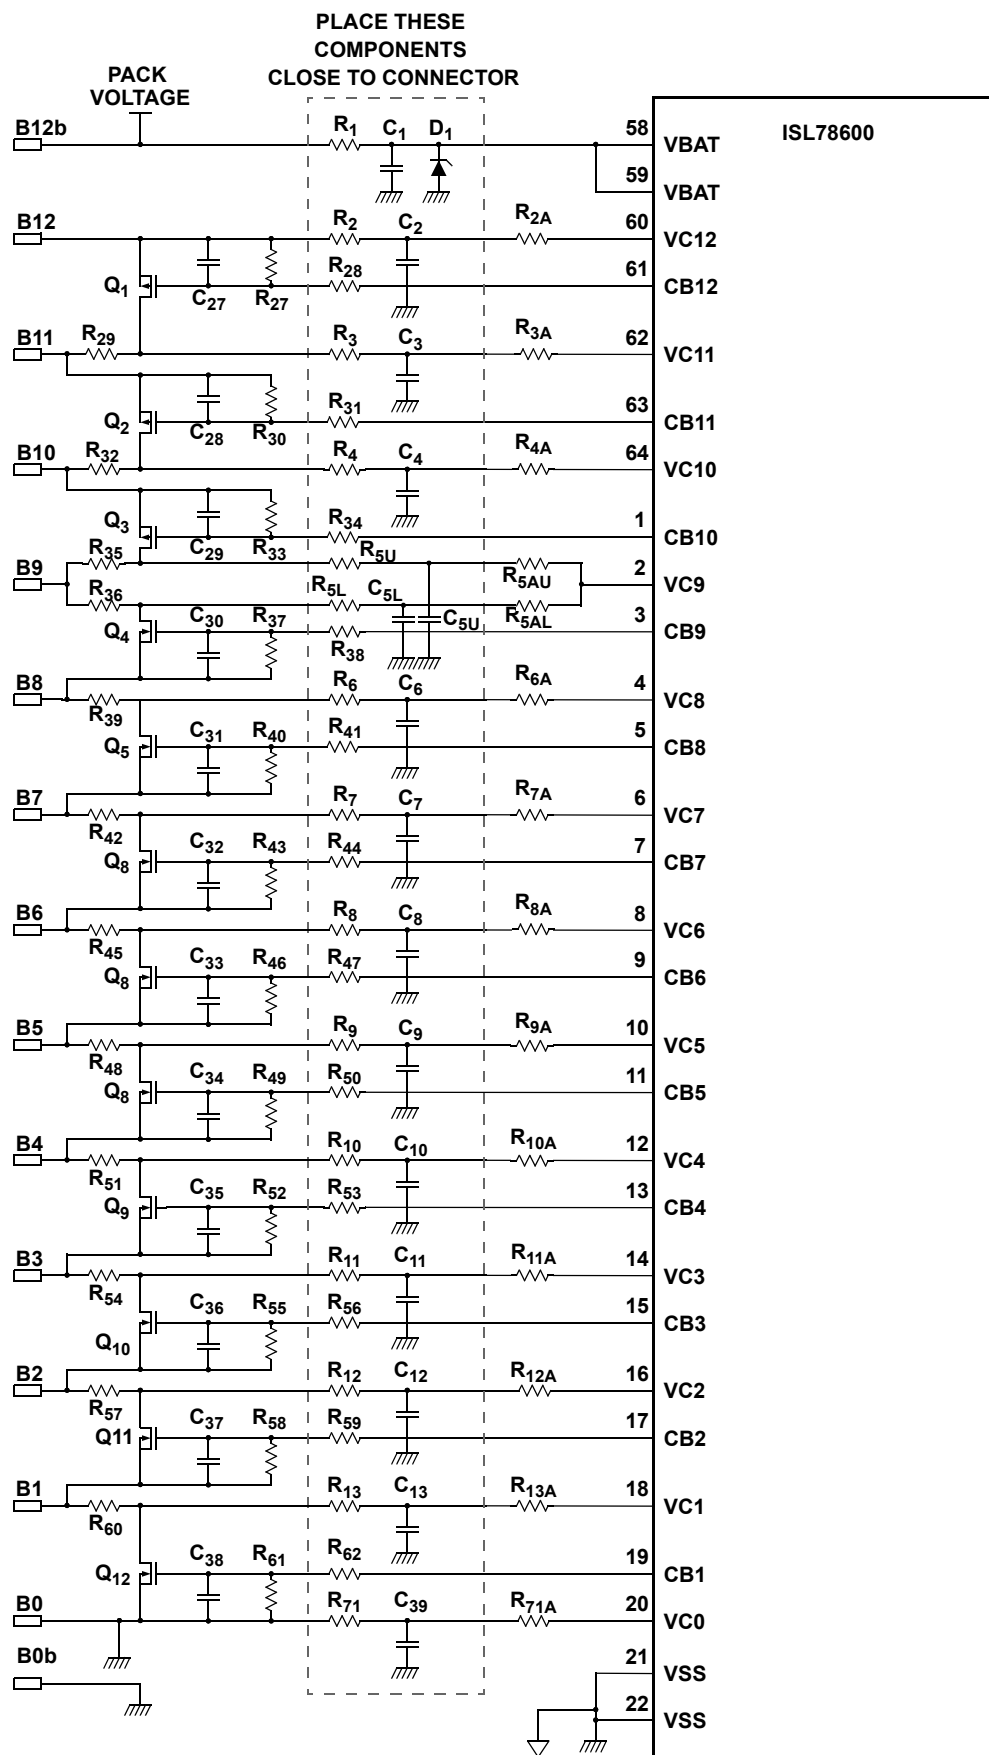
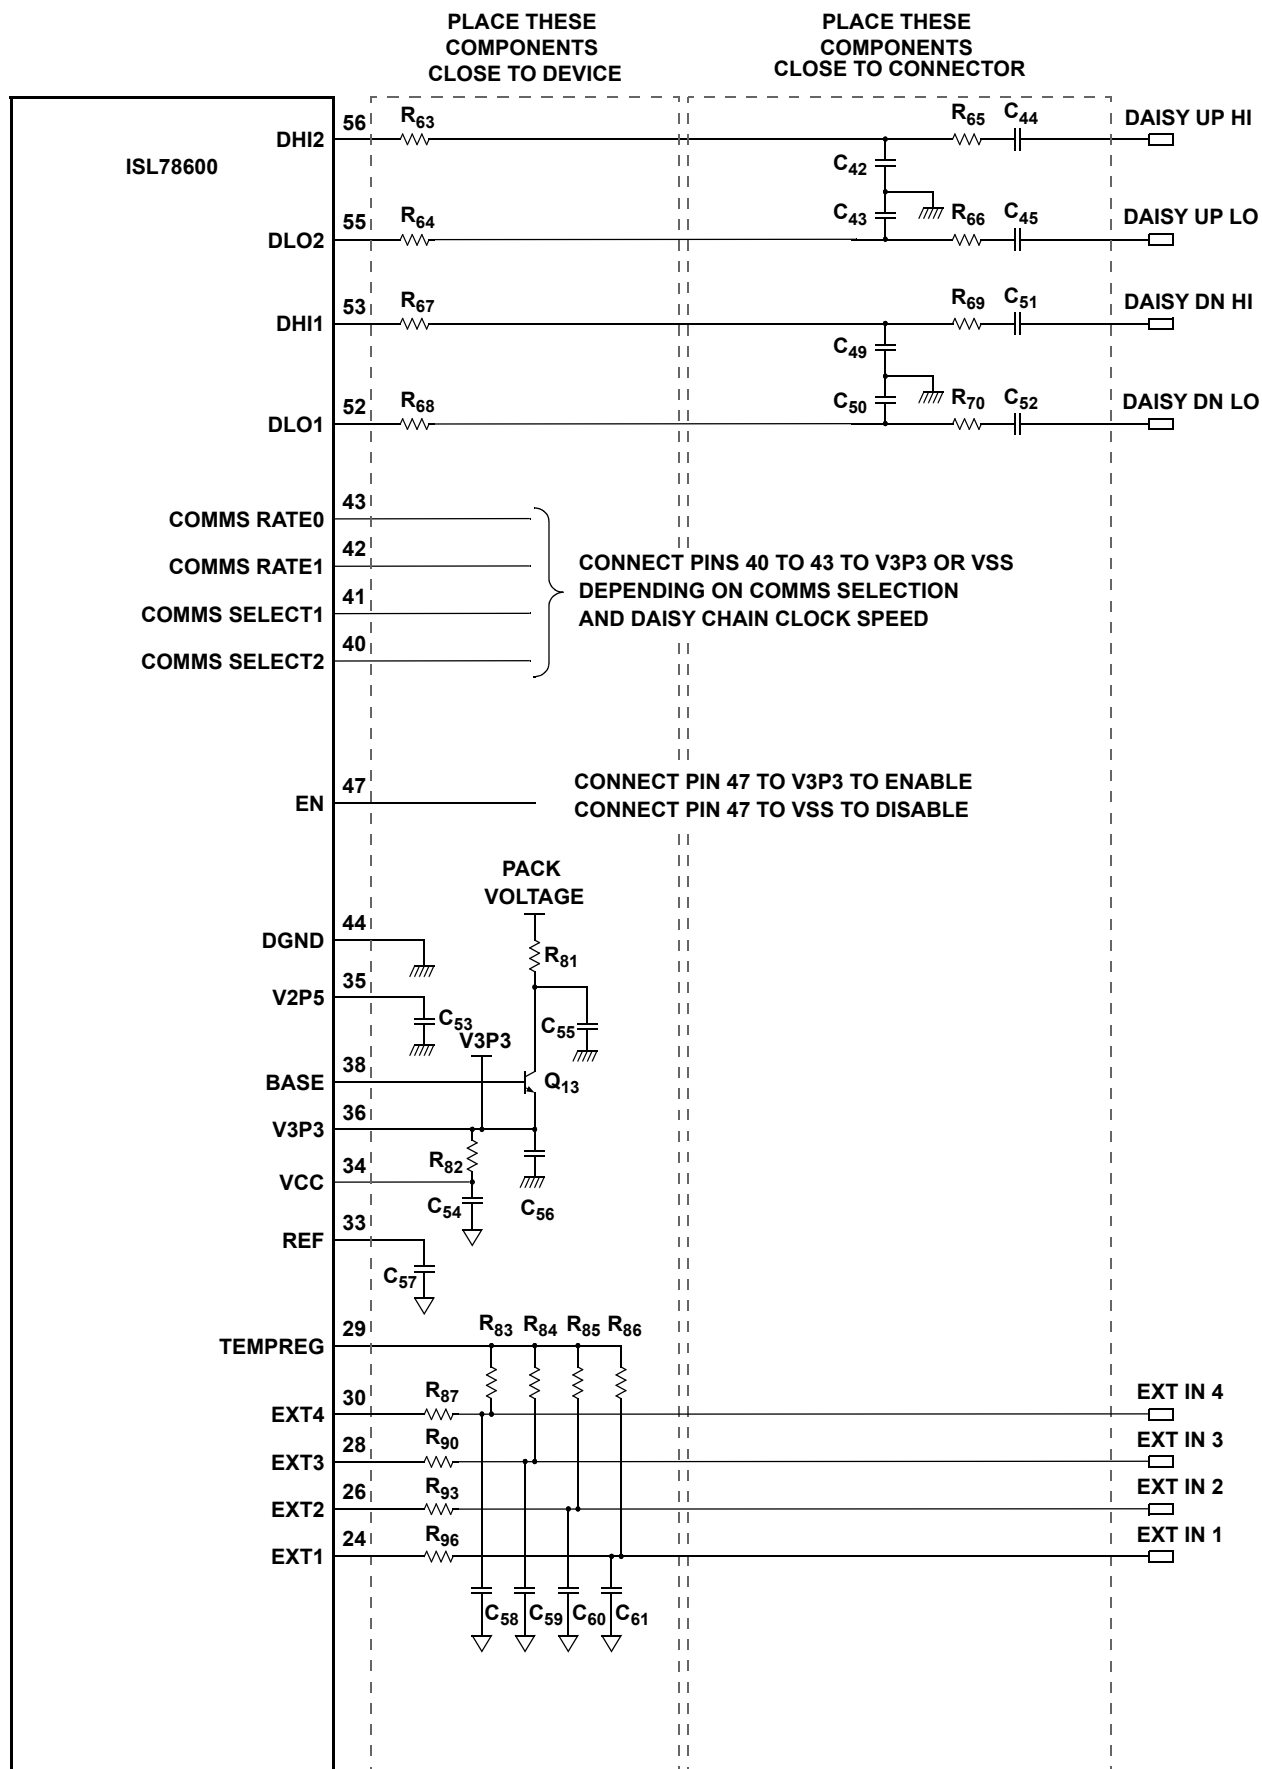
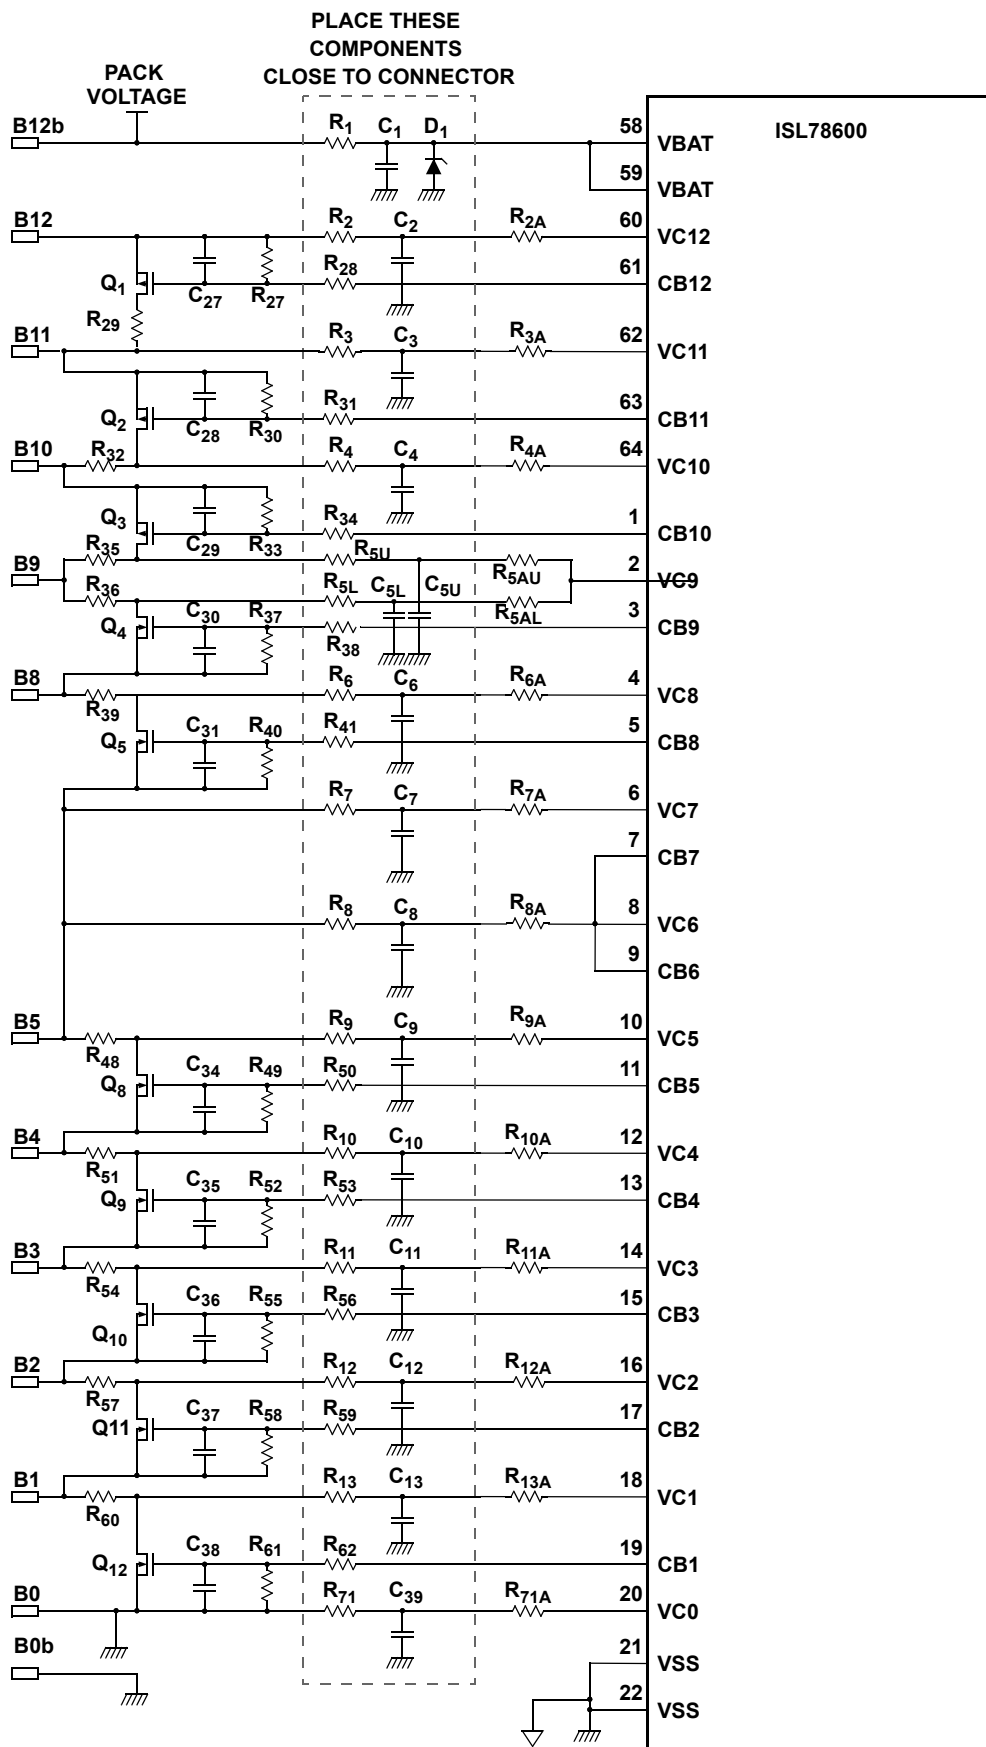
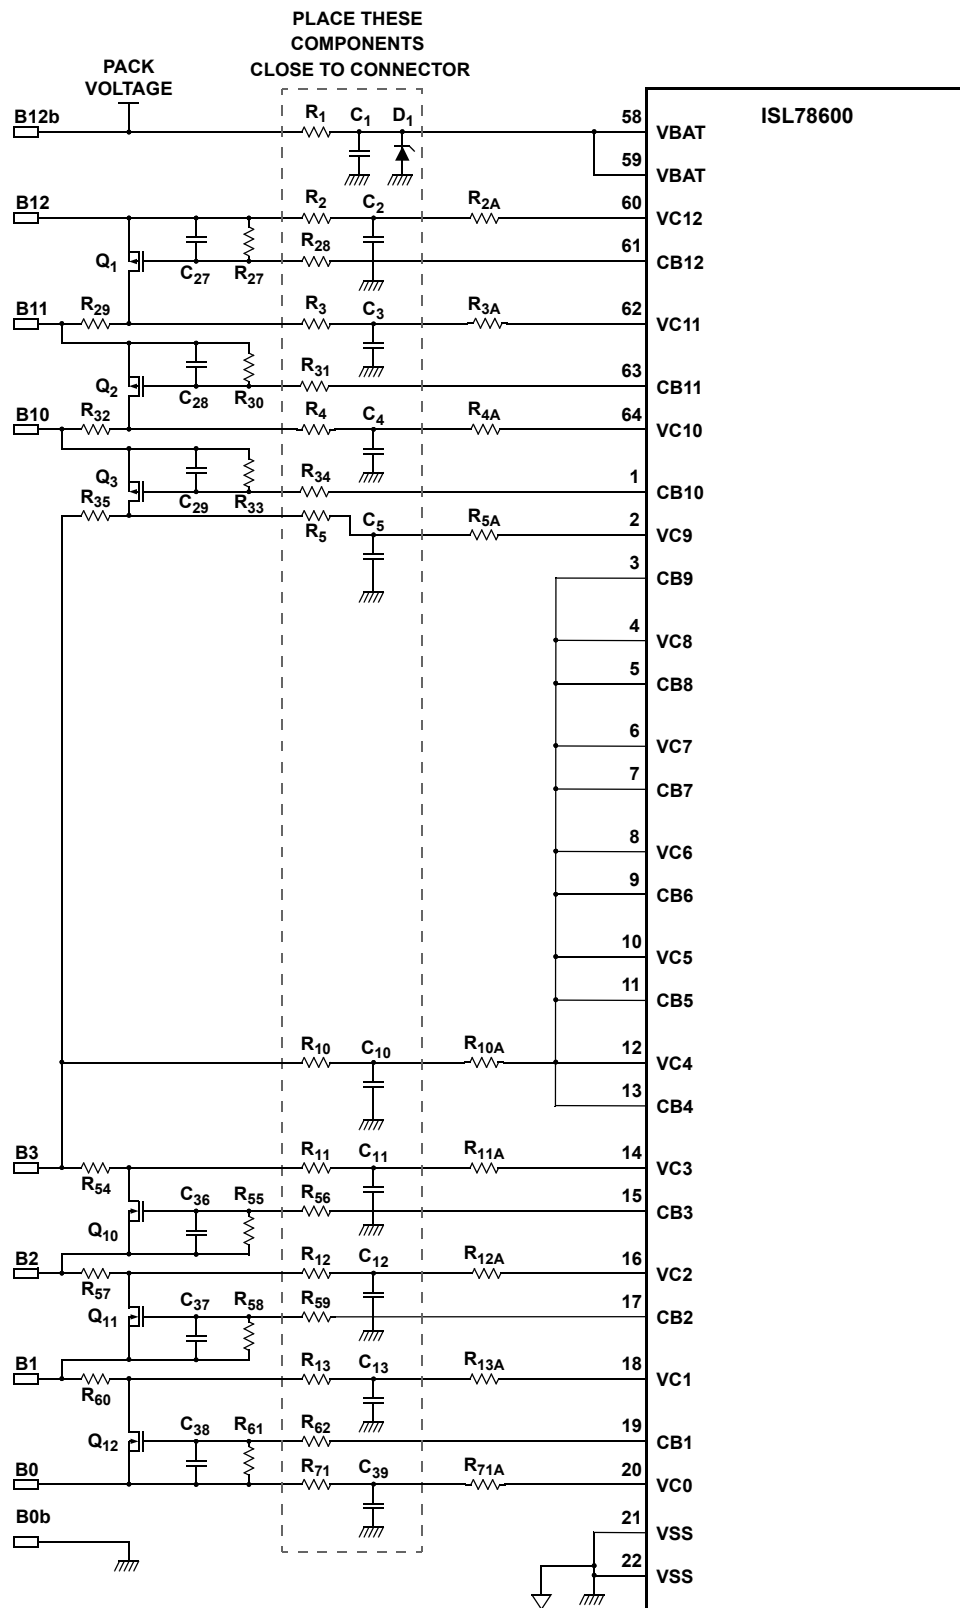

Figure 51. Typical Battery Connection Circuit
Figure 52. Typical Non-Battery Connection Circuits For Middle and Top Daisy Chain Devices
Figure 55. Typical 10 Cell Battery Connection Circuit
Figure 57. Typical 6 Cell Battery Connection Circuit
Typical application circuits are shown in Figures 51 through 57. Table 13 on page 48 contains recommended component values. All external (off-board) inputs to the ISL78600 are protected against battery voltage transients by RC filters. They also provide a current limit function during hot plug events. The ISL78600 is calibrated for use with 1k $\Omega$  series protection resistors at the cell inputs. VBAT uses a lower value resistor to accommodate the VBAT supply current of the ISL78600. A value of 27 $\Omega$  is used for this component. As much as possible, the time constant produced by the filtering applied to VBAT should be matched to that applied to the Cell 12 monitoring input. Component values given in Table 13 produce the required matching characteristics.
Figure 51 on page 41 shows the standard arrangement for connecting the ISL78600 to a stack of 12 cells. The cell input filter is designed to maximize EMI suppression. These components should be placed close to the connector with a well controlled ground to minimize noise for the measurement inputs. The balance circuits shown in Figure 51 provide normal cell monitoring when the balance circuit is turned off, and a near zero cell voltage reading when the balance circuit is turned on. This is part of the diagnostic function of the ISL78600.
Figure 52 on page 42 shows connections for the daisy chain system, setup pins, power supply, and external voltage inputs for daisy chain devices other than the master (stack bottom) device.
The input circuit component count can be reduced in cases where fewer than 10 cells are being monitored. It is important that cell inputs that are being used are not connected to other (unused) cell inputs as this would affect measurement accuracy. Figures 55, 56, and 57 show examples of systems with 10 cells, 8 cells, and 6 cells, respectively.
The component notations and values used in Figures 55, 56, and 57 are the same as those used in Figures 51. But in Figure 57, the resistor associated with the input filter on VC9 is noted as  $R_5$ , rather than R5U. This value change is needed to maintain the correct input network impedance in the absence of the Cell 9 balance circuits.
**Table 13. Recommended Component Values for Circuits in (Figure 52 through Figure 57)**
For Figure 52 on page 42 (battery connection circuits), the basic input filter structure is composed of resistors R2 to R13, R71, and capacitors C2 to C13 and C39. These components provide protection against transients and EMI for the cell inputs. They carry the loop currents produced by EMI and should be placed as close to the connector as possible. The ground terminals of the capacitors must be connected directly to a solid ground plane. Do not use vias to connect these capacitors to the input signal path or to ground. Any vias should be placed in line to the signal inputs so that the inductance of these forms a low pass filter with the grounded capacitors.
A dual point failure in the balancing resistors ( $R_{29}$ ,  $R_{32}$ ,  $R_{35}$ , etc.) of Figure 52 on page 42 and associated balancing MOSFET ( $Q_1$  to  $Q_{12}$ ) could also give rise to a shorted cell condition. It is recommended that the balancing resistor be replaced by two resistors in series.